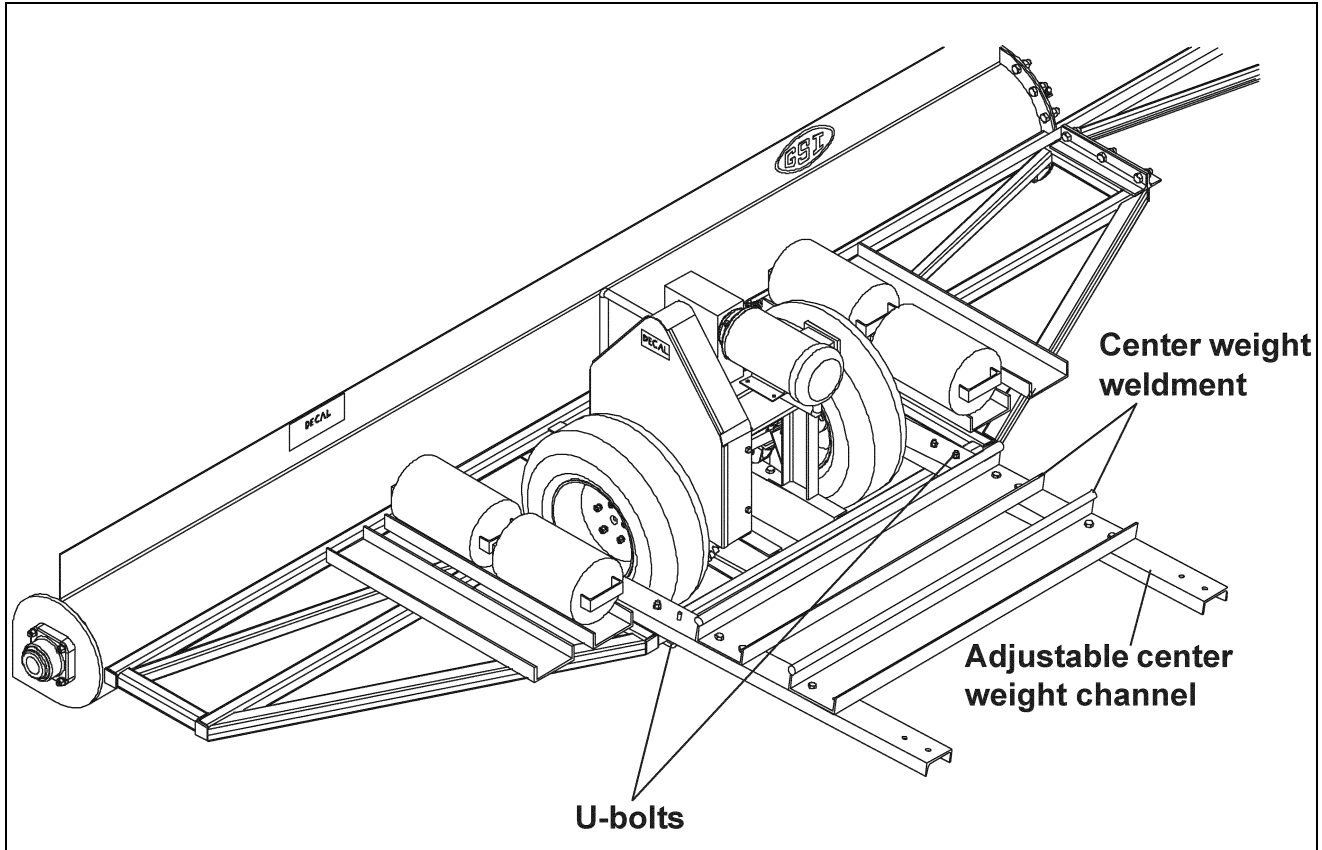

Figure 5T
- B. Attach the center weight weldments to the adjustable center weight channel using eight (8) 1/2" x 1-1/4" bolts, split lock washers and hex nuts. The adjustable center weight has three sets of holes for the center weight weldments to adjust the weights. (See Figure 5T)